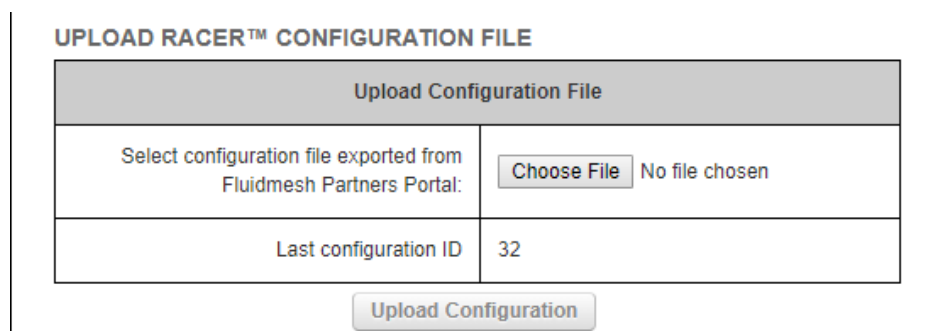

Figure 21. Configurator interface (FM Racer configuration file upload dialog)
3. Click the **Choose File** button in the **Upload Configuration File** section (Figure 21 \(page 60\)).